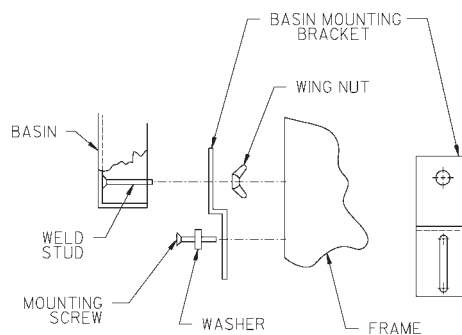
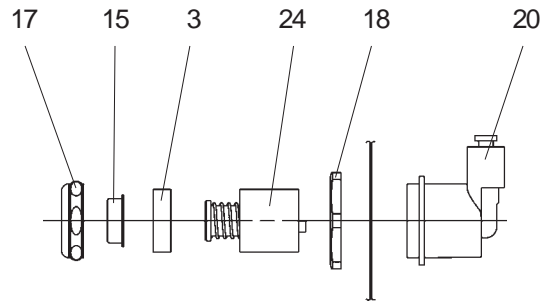

FIG. 4
FIG. 7
See Fig. 7
4. Attach basin mounting brackets to basin studs located in the lower corner with two (2) provided wing nuts (See Fig. 4). Tighten securely.
**NOTE: WASTELINE TRAP(S) AND SERVICE SUPPLY STOPS ARE NOT INCLUDED.**
8. Open service stop and operate push button to purge air from system. Check thoroughly for leaks. Check stream height from bubbler. Stream height is factory set at 45-50 PSI. If supply pressure varies greatly from this, remove items 15 and 17 and adjust screw on regulator (item 24) see figure 7. Clockwise adjustment will raise stream and CCW adjustment will lower stream height. For best adjustment stream height should be approximately 1-1/2" (38mm) above the bubbler guard. (See Fig.11).